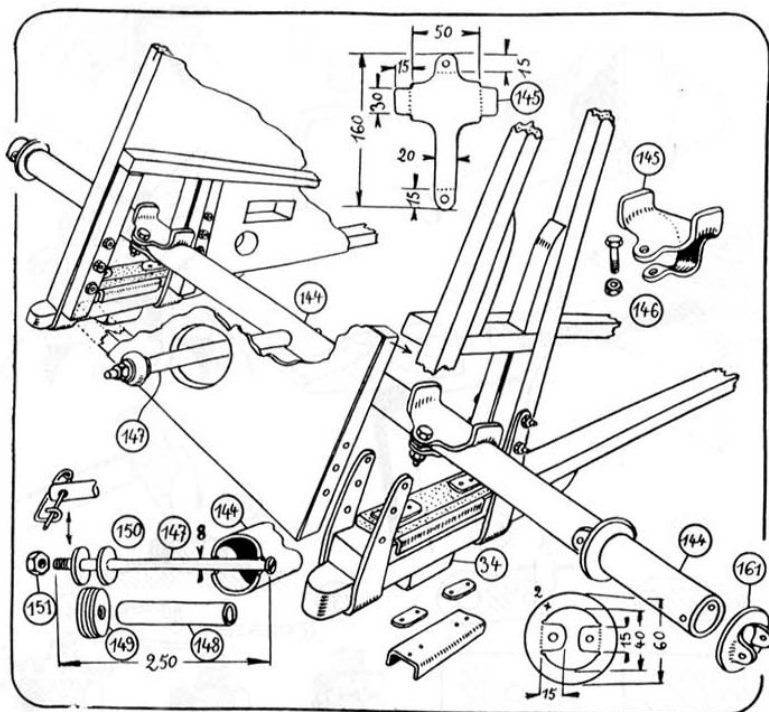

Figure 3.21: The axle and its placement
The axle is a 36×40 tube (144) (fig. 3.21) 1200mm long, filled with another reinforcing tube, 31×35 800mm long. This is 4mm thick in total, and weighs 4kg 300g. It is heavy — very heavy. But it's solid! The axle won't bend. You won't have to worry about beating your landing gear into a curve rolling over the clods. Do not repeat the author's mistakes — *only one tube is not enough*.
³I am unable to find this reference number on any drawing, but (161) is in Fig. 3.21, and includes layout details for the washer collar in question.